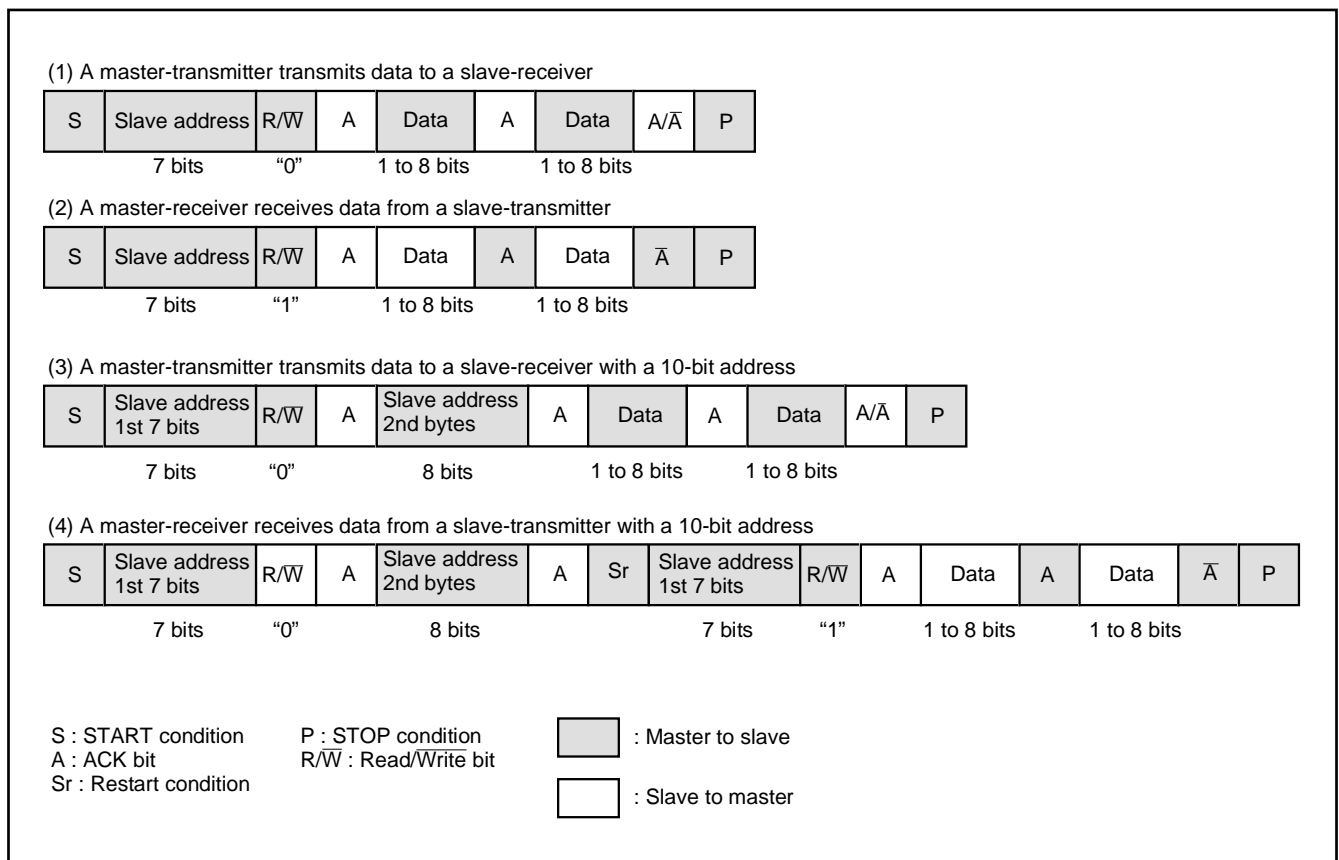

Fig. 77 Address data communication format
When the first-byte address data agree with the slave address, the AAS bit of the I²C status register (S1: address 0013₁₆) is set to "1." After the second-byte address data is stored into the I²C data shift register (S0: address 0011₁₆), perform an address comparison between the second-byte data and the slave address by software. When the address data of the 2 bytes agree with the slave address, set the RWB bit of the I²C slave address register to "1" by software. This processing can make the 7-bit slave address and R/W data agree, which are received after a RESTART condition is detected, with the value of the I²C slave address register. For the data transmission format when the 10-bit addressing format is selected, refer to Figure 77, (3) and (4).